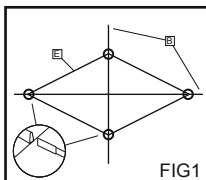

FIG1
2. Push the poles completely into the channels.(FIG1)